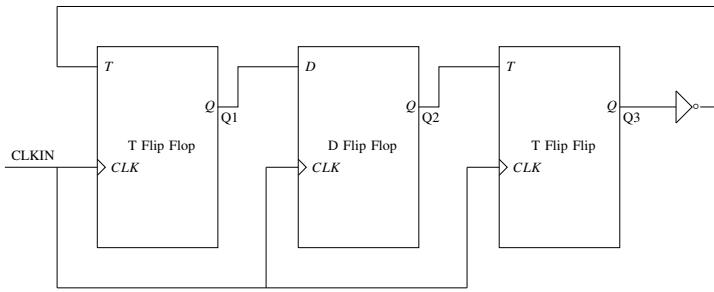

Fig. 5.11
11. Consider a sequential digital circuit consisting of T flip-flops and D flip-flops as shown in Fig. 5.11. CLKIN is the clock input to the circuit. At the beginning, Q1, Q2 and Q3 have values 0, 1 and 1, respectively.